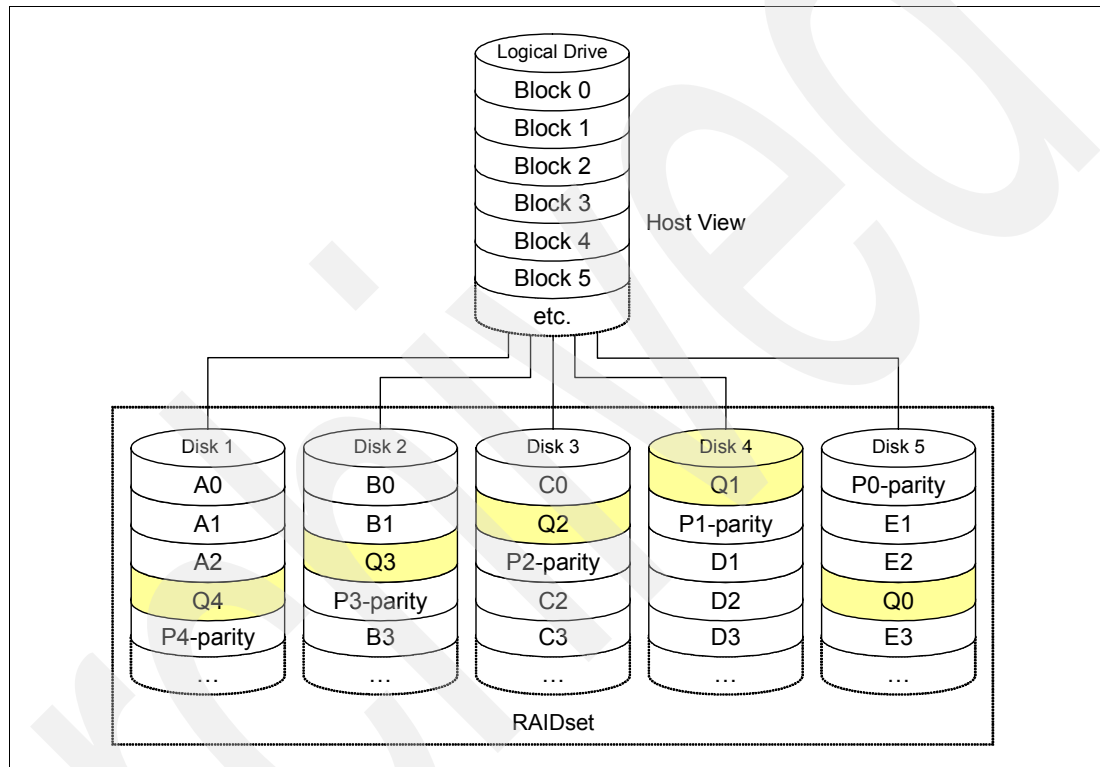

Figure 2-19 RAID-6
- RAID-6: High availability with additional fault tolerance (Figure 2-19 on page 40)